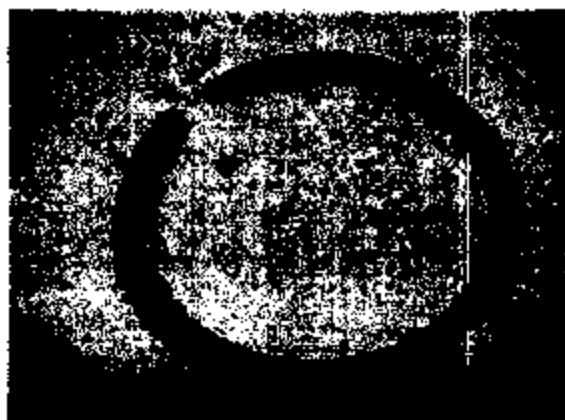

Figure 14
27. Remove and discard the retaining (snap) ring (*see figure 14*).